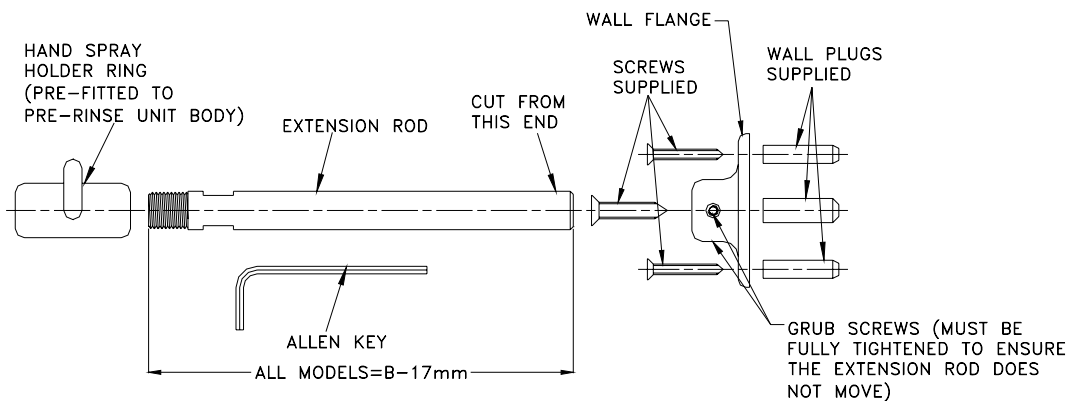

Figure 2 – Wall Bracket Assembly Adjustable (40 – 285 mm)
4. Measure the distance 'B' between the wall and the centre of the hole/s that have been drilled in the bench/trough. Subtract 17mm from the measured distance, and then cut the Extension Rod in Fig 2 to that length as shown. **DO NOT** cut off the threaded end. (Note: Distance 'B' must be no less than 50mm. If it is more than 290mm, then an extended Extension Rod must be purchased).
5. Fit the Wall Flange to the wall, as shown in Fig. 2.
7. Screw the Wall Bracket Extension Rod into the Hand Spray Holder Ring (see Fig 2) but do not tighten (The Hand Spray Holder Ring can be found already pre-fitted to the pre-rinse unit body).